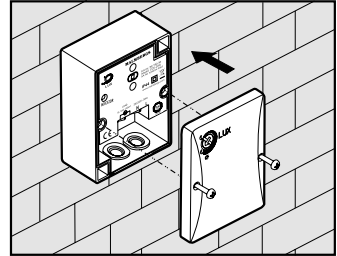

Fig. 9
5. Cover the front case on the bottom case, then tighten it by two screws (See Fig. 9).
The twilight switch may be by-passed for normal "ON/OFF" light operation at any time under the following wiring condition (See Fig. 9).